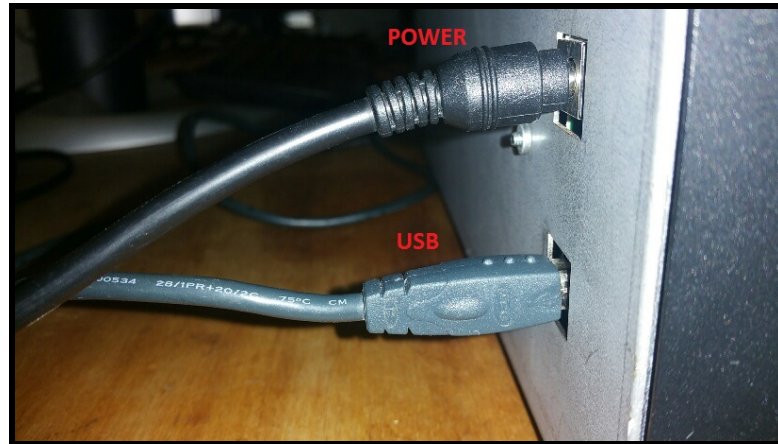

Figure 2.3: Tape Placed Length-Wise On Printer Surface
6. Plug the USB-B connector into the back of the 3D printer (see Figure 2.3), and the USB-A connector into your computer's serial port.